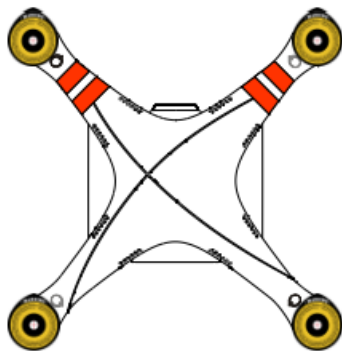

Figure 2-1
1. **(Figure 2-1)** Remove the four warning cards from the motors after you've read them.